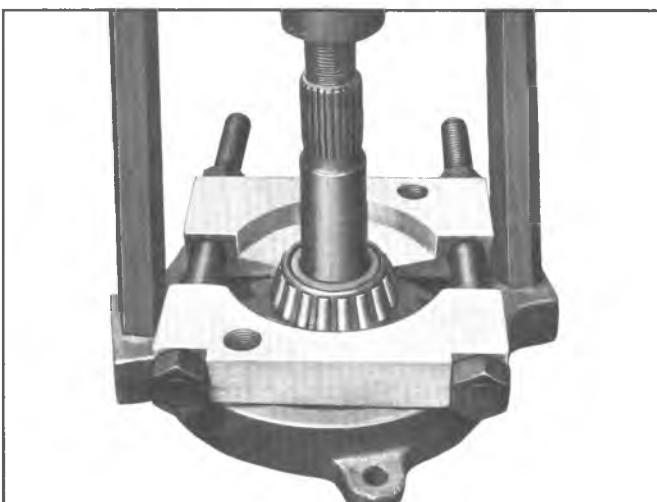

Fig. 6--Removing Inner Pinion Bearing Cone and Roller
5. Remove inner pinion cone and roller using Tool J-22912, installed as shown in Figure 6, and press pinion from bearing.